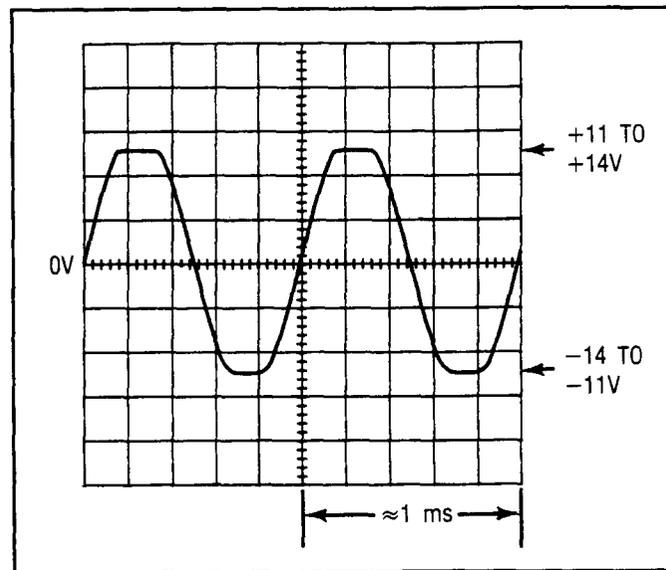

Figure 8B-3. Waveform for √2 Steps 5 and 6
5. Increase the test oscillator level to approximately 30 Vpp. The waveform on the oscilloscope should appear as shown in Figure 8B-3.
6. Connect the oscilloscope to the gate of Q9A. Connect the test oscillator to the LOW INPUT. The waveform should appear as shown in Figure 8B-3.